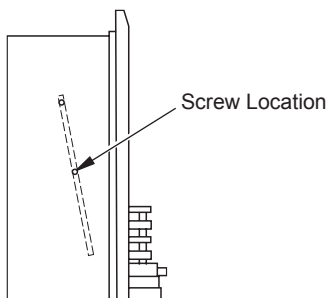

Figure 7 - Glass and Bracket Location
1. Remove screws from glass holder brackets. The brackets are located on the inside of the fireplace and the screws to be removed are on the outside (see Figure 7 for screw and glass location).